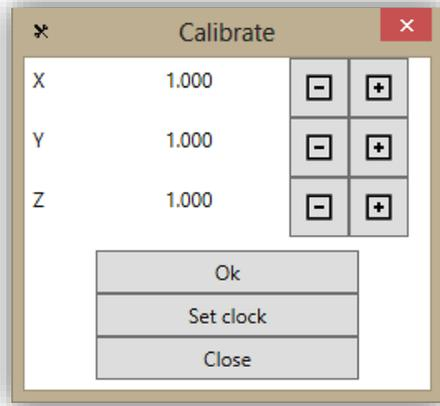

Figure 31: Adjust date and time on unit
6. Press "Save" button on unit and close the Calibrate window. (See figure 31)